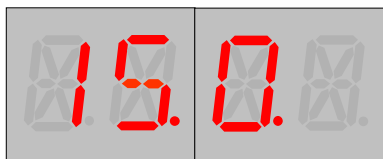

Figure 8b: Bit Number displayed.
- 2. Press SELECT. The Bit Number is displayed. See **Figure 8b**.
- 6. BACK will stop display of Bit values and return to navigating Bit Numbers. See **Figures 8b** and **8c**.